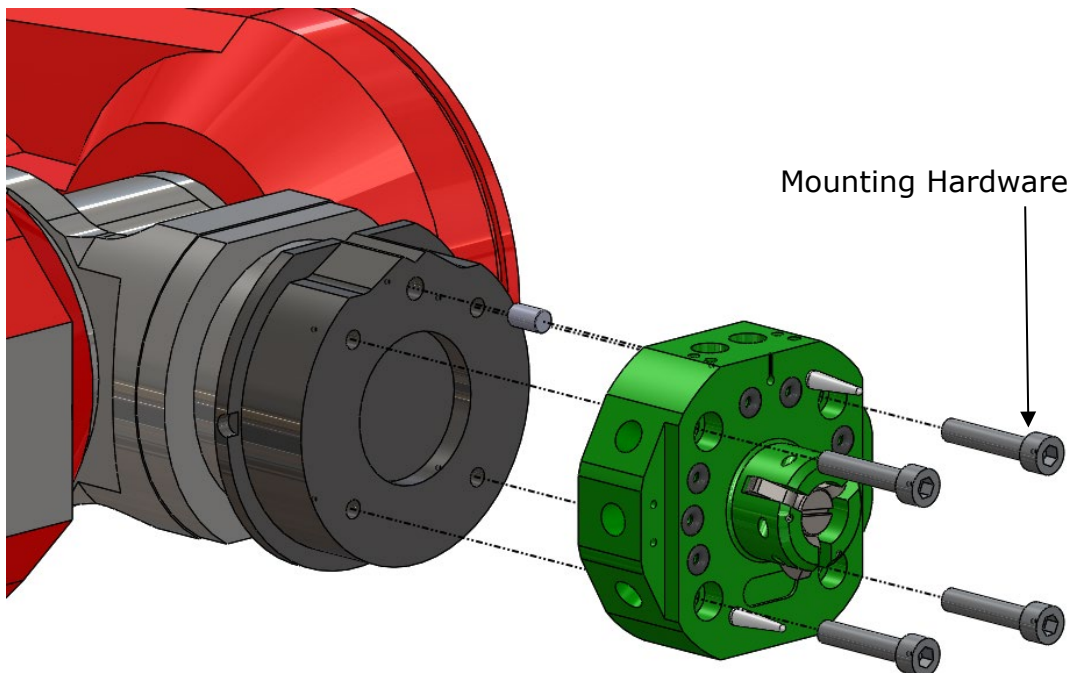

Figure 5.1.1-1. E63 Robot Side Installation w/ M6 Hardware
1. Locate the Robot Side to the manipulator mounting flange utilizing the locating boss and one (1) M6 locating dowel. (Figure 5.1.1-1).